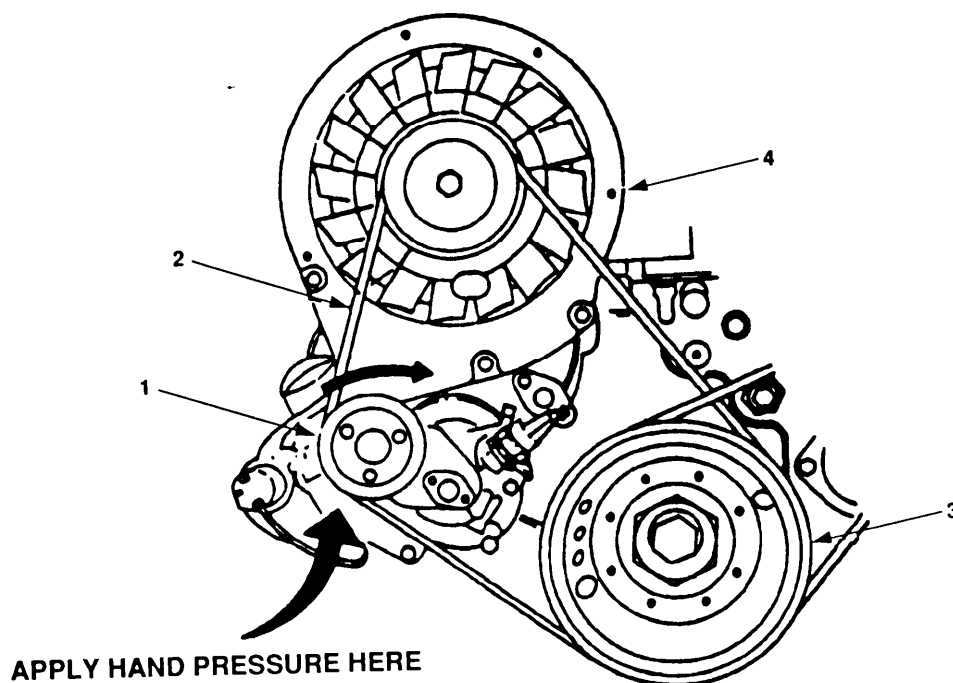

Figure 4-12. Cooling Fan Belt Maintenance.
- a. Apply pressure to idler pulley (figure 4-12, 1) and push upward.
- b. Remove V-belt (2) while holding idler pulley (1).
- c. Slowly release pressure from idler pulley (1).
- a. Install cooling fan V-belt (2) on inner groove of crankshaft pulley (3) and cooling fan pulley (4), then apply pressure to idler pulley (1) and push upward.
- b. While holding idler pulley (1), install cooling fan V-belt (2) on idler pulley (1).
- c. Release idler pulley (1). Ensure cooling fan V-belt is on cooling fan pulley (4), idler pulley (1), and inner groove crankshaft pulley (3).